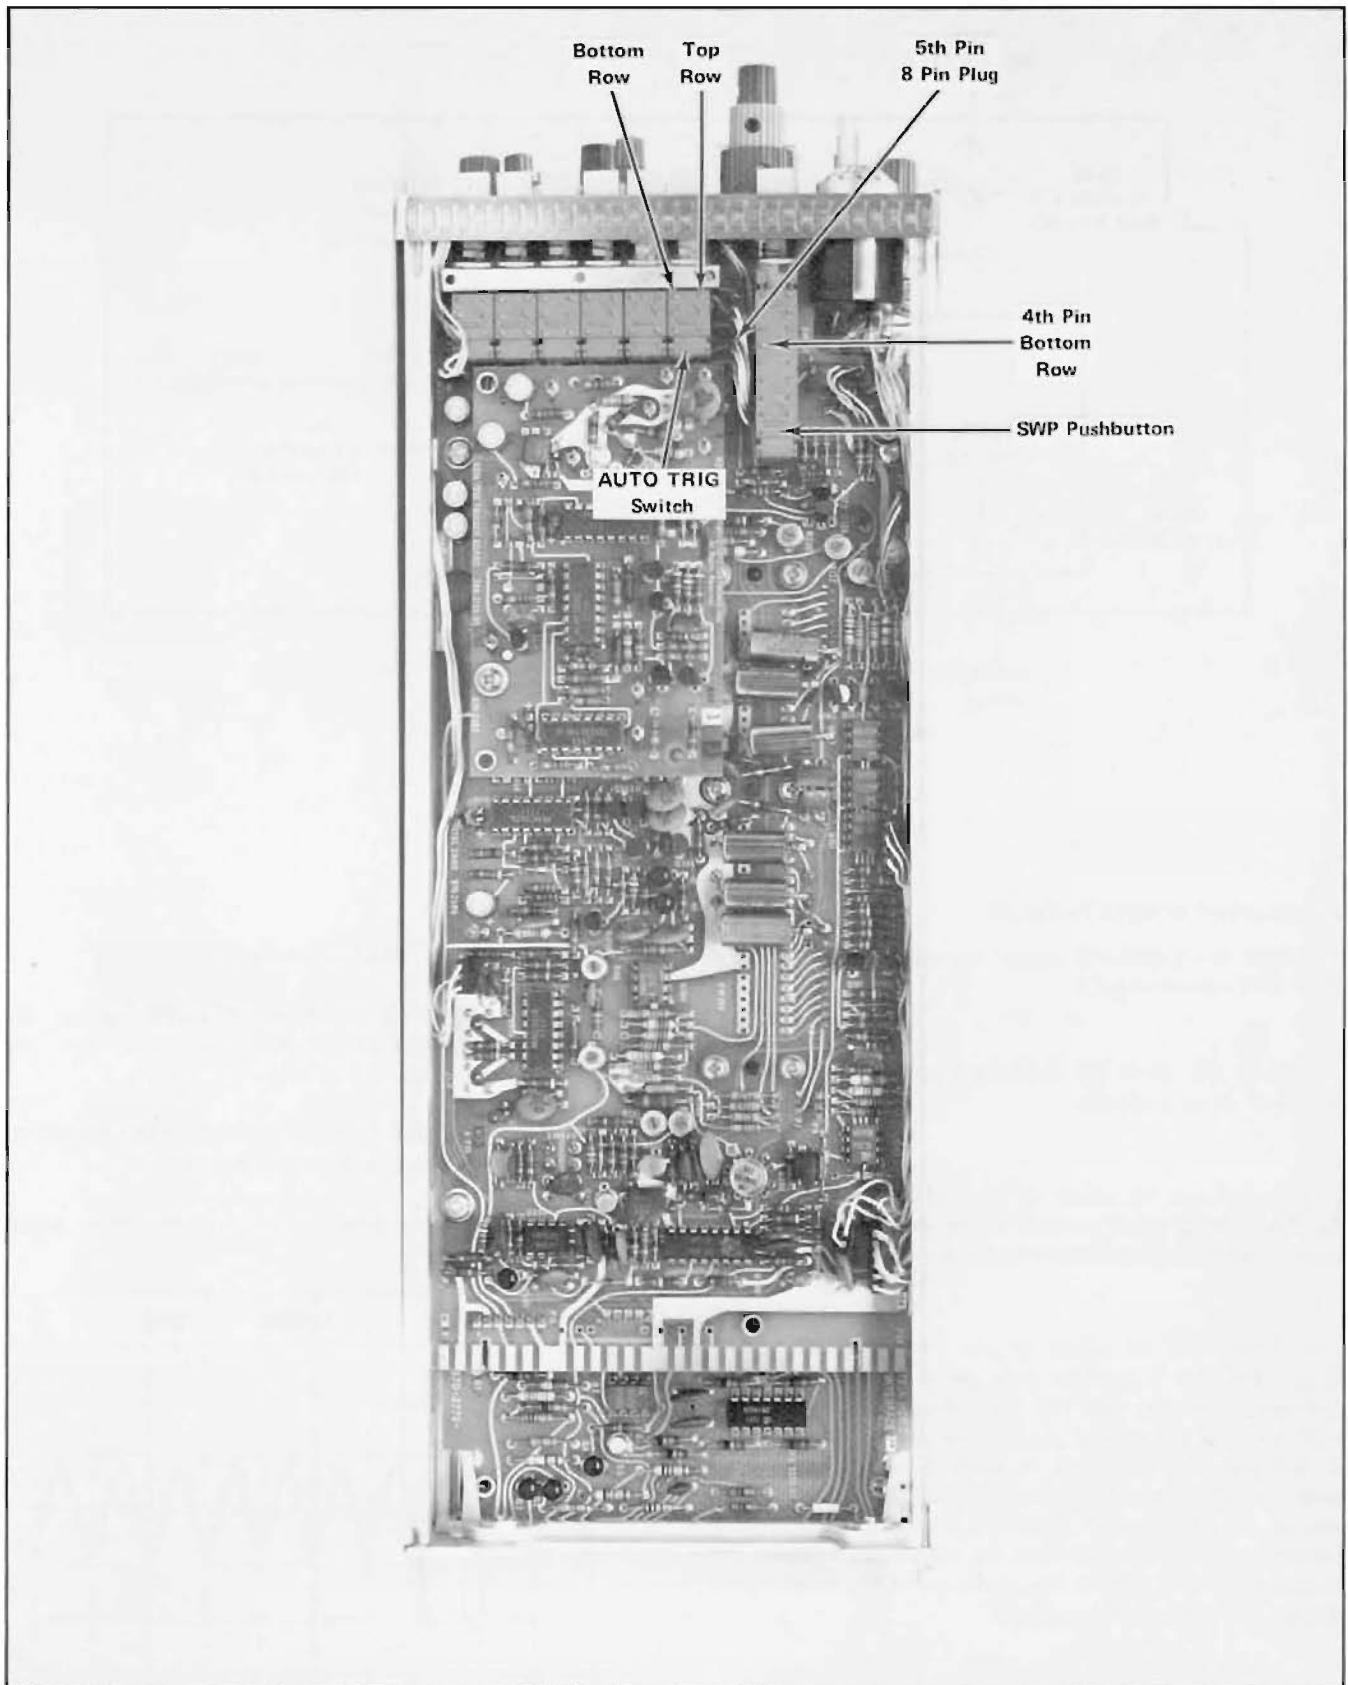
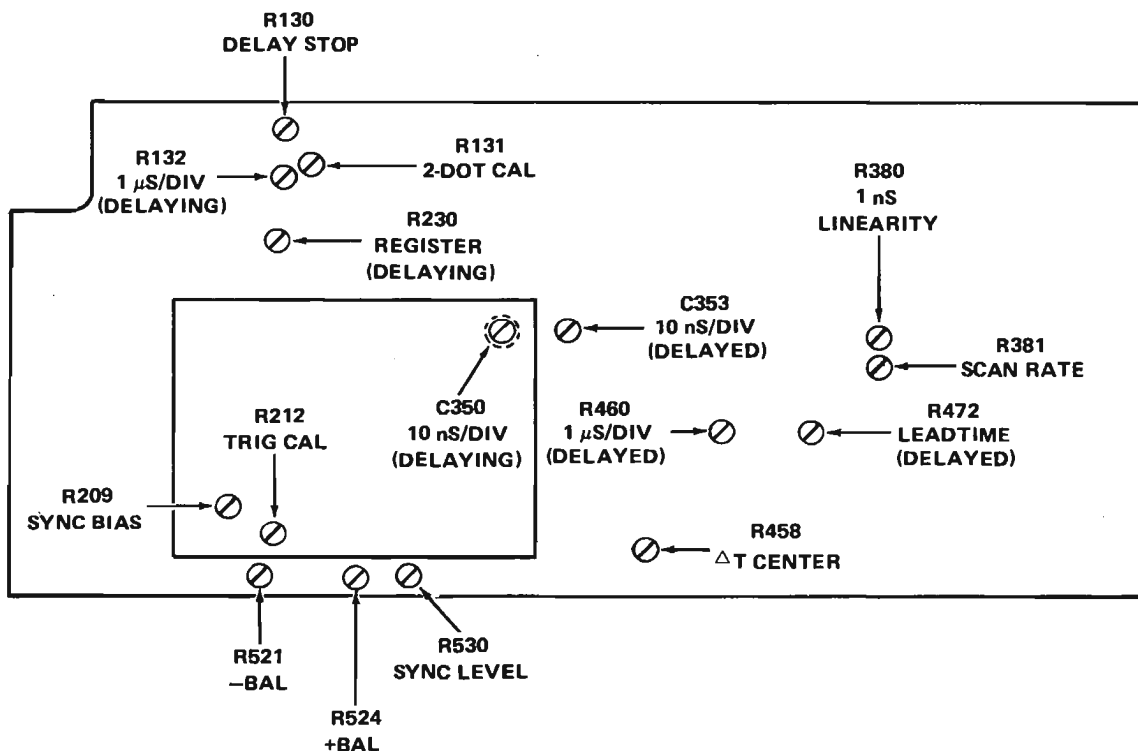

Fig. 7-2. Horizontal Board Test Points.
Fig. 7-3. Triggering and Timing Adjustment Locations.
- Push the 7S14 HF SYNC button and adjust R212 (see Fig. 7-3) for a display.
- Touch the 1X probe to pin 1-5 of the Horizontal Board. Pin 1-5 is located just above the AUTO TRIG pushbutton switch. (See Fig. 7-2 - the fifth pin from the front panel is the correct pin.) Adjust the LEVEL control so the free running trace is located on the horizontal centerline of the graticule. If the white dot on the LEVEL control is not located between the 11 and 1 o'clock positions, loosen the control set screw then rotate the control knob and tighten the set screw so the white dot is located at the 12 o'clock position.
c. Touch the 1X probe to the base of Q202 and adjust R530 (see Fig. 7-3) to set the DC level of Q202 to match the DC level of Q201.
e. Touch the 1X probe to the base of Q202 and adjust R524 (see Fig. 7-3) so that the DC level is +60 mV above the DC level of Q201.
h. Touch the 1X probe to the base of Q202 and adjust R521 (see Fig. 7-3) so that the DC level is -60 mV below the DC level of Q201.
a. Set the TRIGGERING LEVEL control completely counterclockwise. Preset R209 (see Fig. 7-3) completely counterclockwise.
e. Touch the tip of the 1X probe to the fourth pin back on the bottom row of pins of the SWP pushbutton (see Fig. 7-2), then adjust R131 (see Fig. 7-3) to position the trace (displayed by the 7A13) on the horizontal centerline of the mainframe graticule.
Adjust R130 (see Fig. 7-3) so that the left-hand dot is at the zero graticule line.
c. Adjust R132 (see Fig. 7-3) to set the 2nd (right-hand) dot on the ninth time marker in the same location as the 1st dot is located on the first time marker.